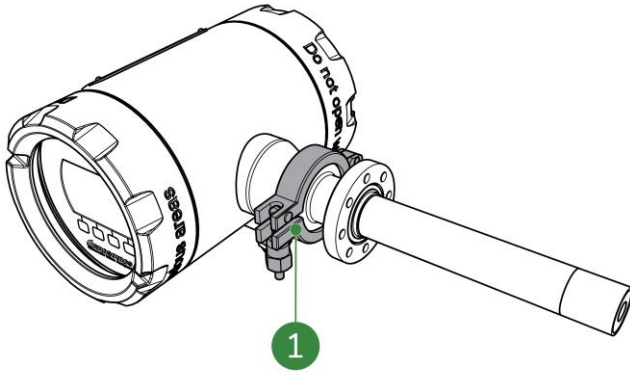

Figure 8-5: Tri-clamp nut loosening
4. Loosen the nut (Figure 8-5, pos. 2) of the tri clamp (Figure 8-5, pos. 1).